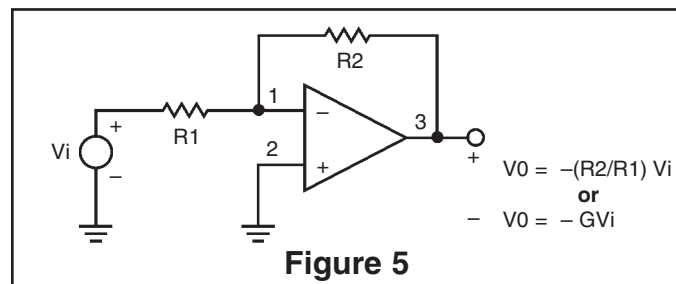

Figure 5
In order to control the gain of our circuit we use feedback to close the loop around the op-amp as shown in Figure 5. This circuit consists of an op-amp and two resistors R1 and R2. Resistor R2 is connected from the output terminal of the op-amp, terminal 3, back to the negative input terminal, terminal 1. We speak of R2 as applying negative feedback; if R2 were connected between terminals 3 and 2, we would call this *positive feedback*. Note that R2 closes the loop from the output terminal back around to the input terminal of the op-amp. In this circuit, the closed loop gain (G) of the op-amp, from the input V_i to the output terminal, depends on the ratio of R2 to R1.